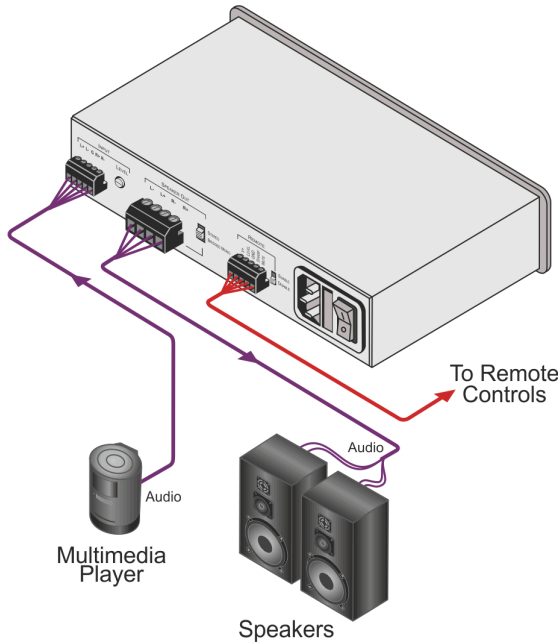

Figure 3: Connecting the 914 Power Amplifier
To connect the **914** as illustrated in the example in Figure 3:
5. Connect the supplied power cord to the **914** power socket and to the mains electricity (not shown in Figure 3).